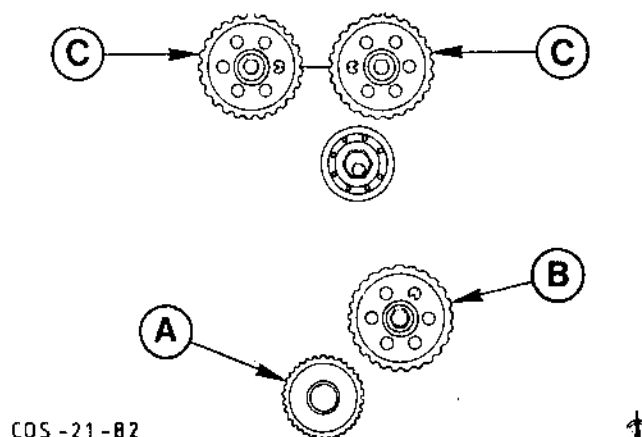

Fig.209. Remove the toothed belt pulleys.
10. Loosen the crankshaft, auxiliary shaft and camshaft pulley retaining bolts, Fig.209.